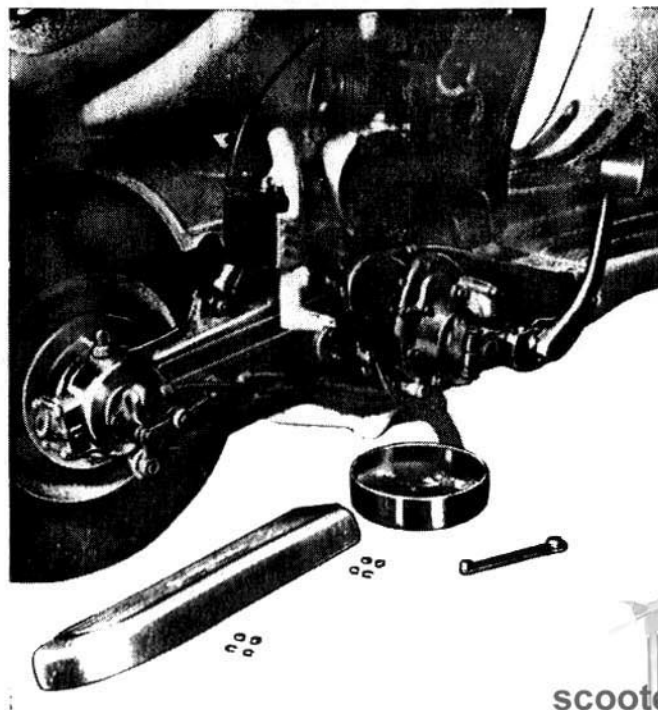

Fig. 15
Preliminary Operations (fig. 15)
- Op. 2. Place a tray under the engine to collect the oil, as indicated in fig. 15. Unscrew the oil plug situated under the engine crankcase (10 mm allen key).